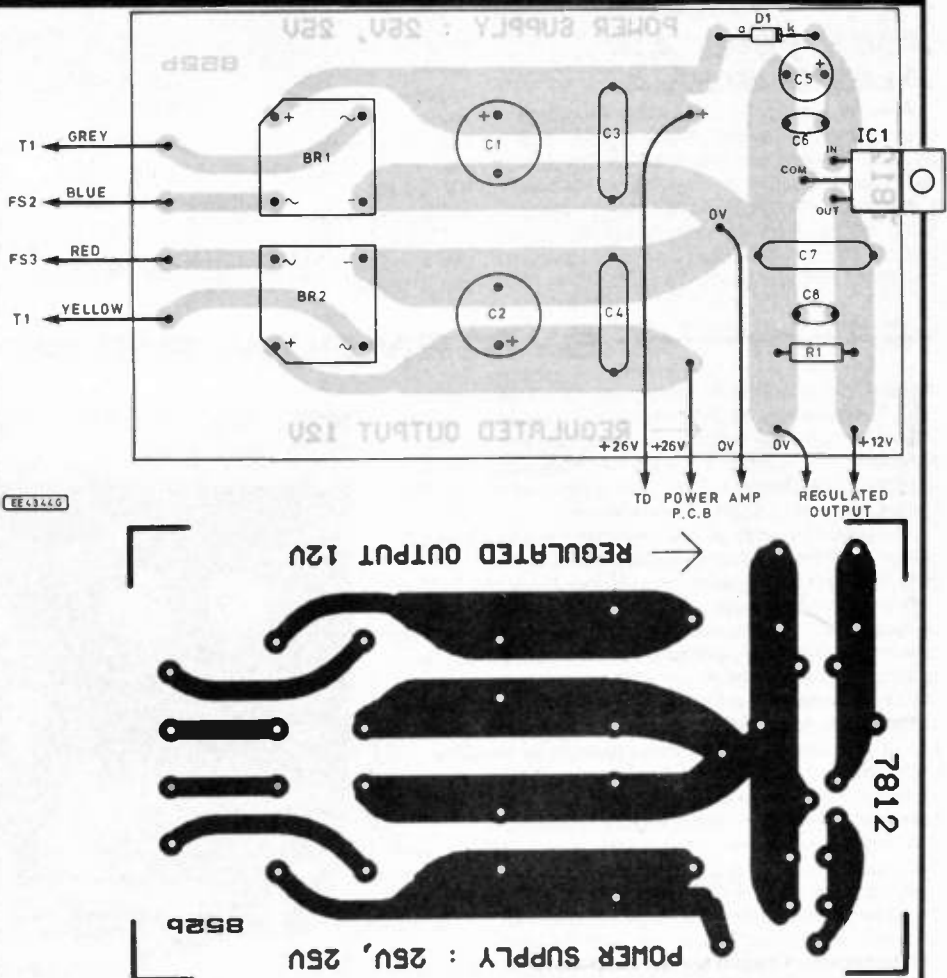
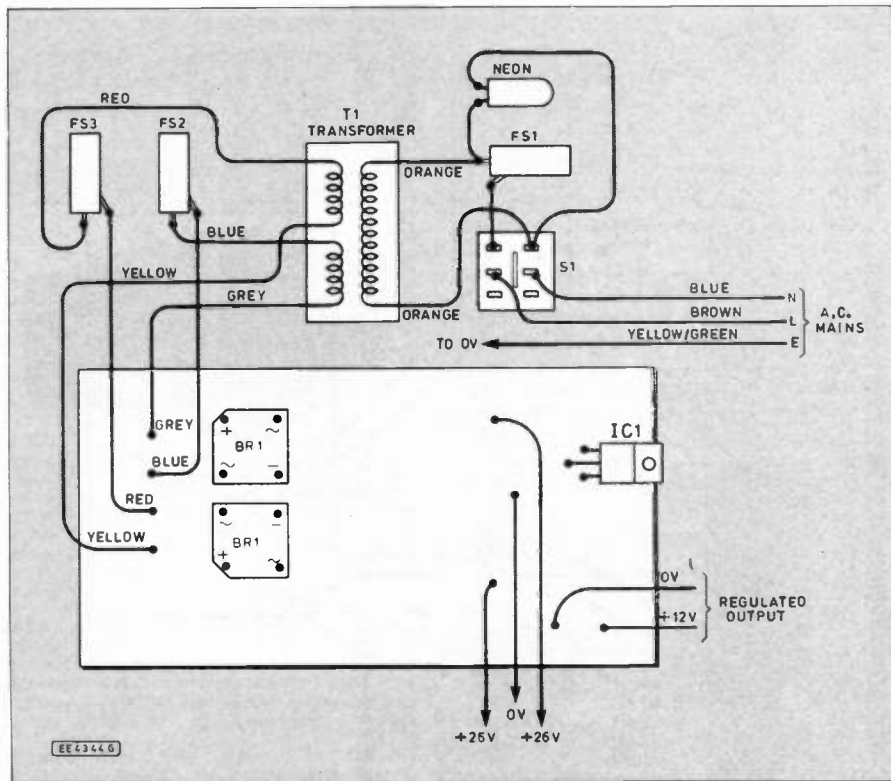

Fig. 6. System Power Supply printed circuit board component layout and full size underside copper foil master pattern.
Fig. 7. Interwiring from the circuit board to the toroidal mains transformer and other off-board components.
The Power Supply printed circuit board topside component layout and full size underside copper foil master pattern is shown in Fig. 6. This board is available from the *EPE PCB Service*, code 852b.
Begin construction by soldering in the smallest components, such as small capacitors, diode D1 (the correct way round) and the resistor. Be careful to fit the bridge rectifiers REC1 and REC2 the correct way round (*in mirror image fashion*) as shown in Fig. 6 and Fig. 7..
The instructions supplied with the transformer should be checked, but it is likely that the orange coloured leads are connected to the 240V primary coil. Connect the mains circuit as shown in Fig. 7, noting that the mains Earth (E) is joined to the metal front panel.